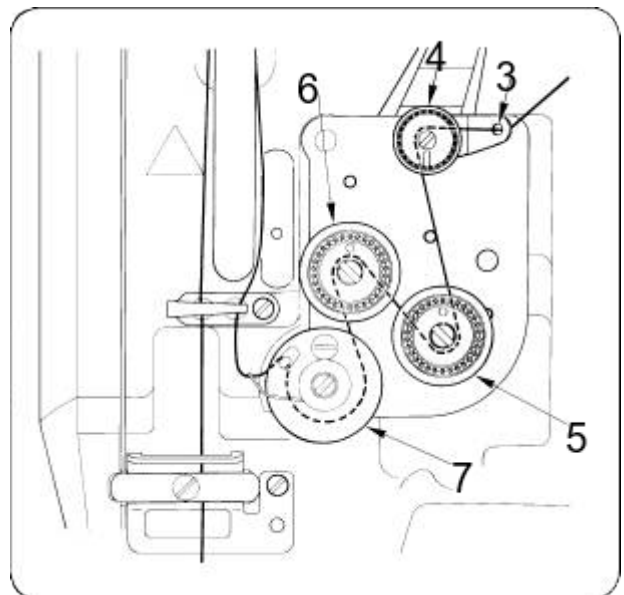

Figure 17
4. Follow the thread path as shown in Fig 17 in order.